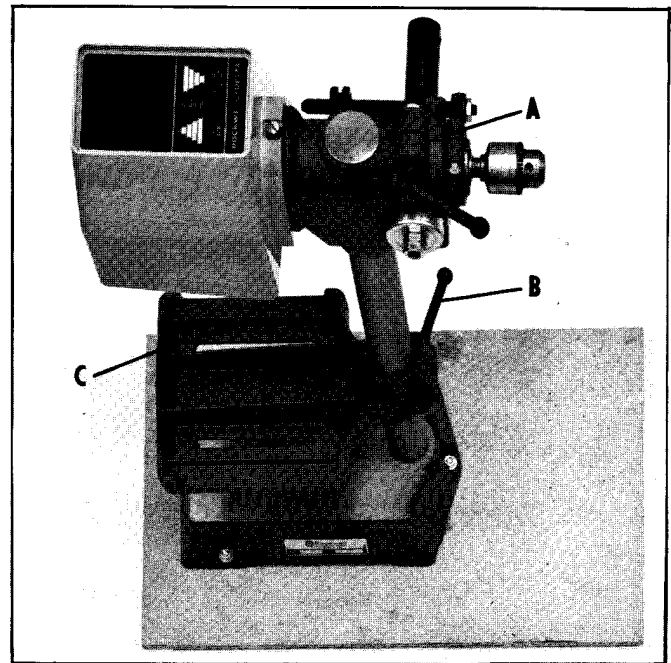

Fig. 2
1. Loosen two screws that fasten the drill press head (A) Fig. 2, to the column and remove the drill press head.
2. Loosen table clamp handle (B) Fig. 2, and remove the table (C). Turn the table (C) over and replace it on the column.